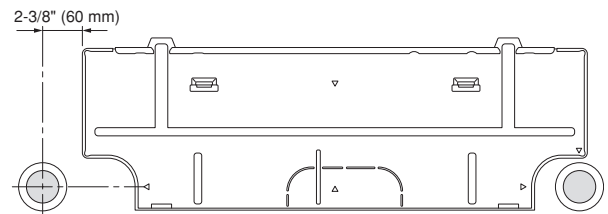

Fig. 9
- (1) Place the rear panel from the indoor unit on the wall at the location selected. Make sure the panel is horizontal, using a carpenter’s level or tape measure to measure down from the ceiling. Wait until after cutting the hole before attaching the rear panel to the wall.
- (2) Determine which side of the unit you should make the hole for tubing and wiring. (Fig. 9)
In the case of left-rear tubing, use the measurement points 2-3/8" (60 mm) from the edge of the rear panel for precise placement of the hose outlet. (Fig. 9)